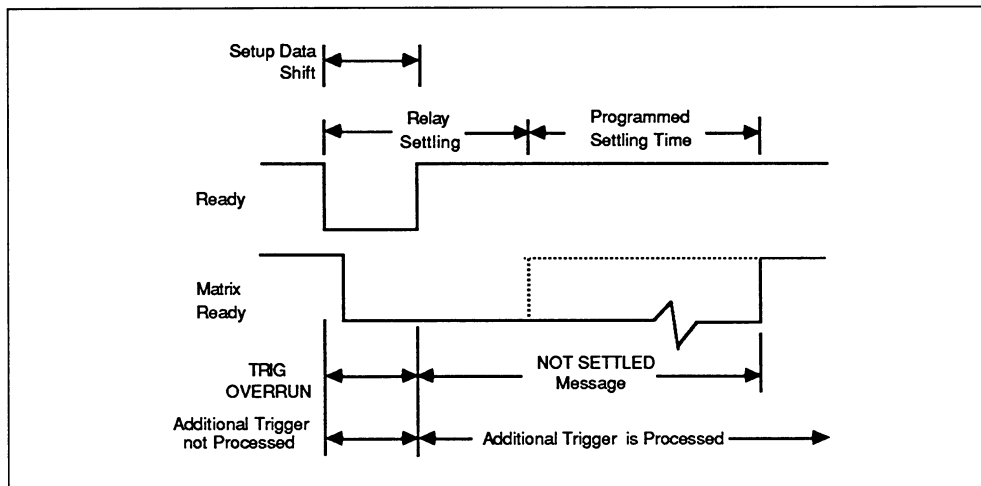

Figure 4-13. READY and MATRIX READY Signal Timing
2. The total settling time equals the longest relay settling time of any card in the system plus any user-programmed settling time. Figure 4-13 shows a timing diagram of the settling times. Additional timing diagrams are given in paragraph 3.11.